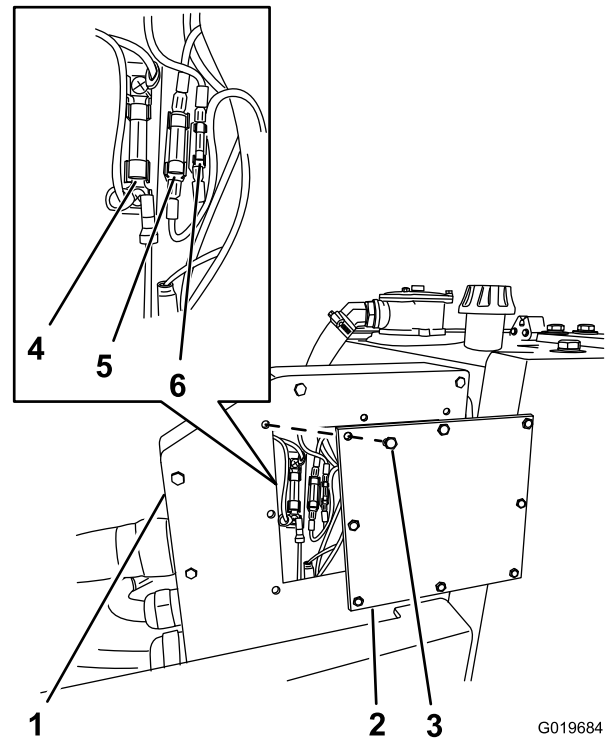

Figure 73
The electrical system is protected by 3 fuses. The electrical system typically requires no maintenance; however, if a fuse blows, check the component/circuit for a malfunction or a short. Figure 73 shows the fuse positions in the junction box.
5. Remove the 8 bolts that secure the auxiliary panel to the junction box. Remove the auxiliary panel and gasket (Figure 73).
6. Check the fuses for damage or an open circuit (blown); refer to Figure 73.
7. Install the auxiliary panel to the junction box using the 8 bolts removed in step 5 (Figure 73).